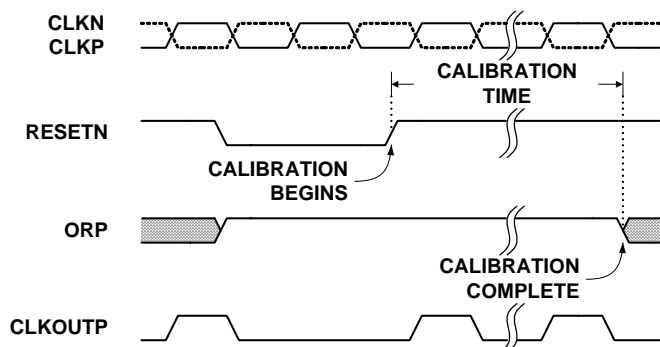

FIGURE 23. CALIBRATION TIMING
The calibration sequence is initiated on the rising edge of RESETN, as shown in Figure 23. The over-range output (OR) is set high once RESETN is pulled low, and remains in that state until calibration is complete. The OR output returns to normal operation at that time, so it is important that the analog input be within the converter's full-scale range to observe the transition. If the input is in an over-range condition the OR pin will stay high, and it will not be possible to detect the end of the calibration cycle.